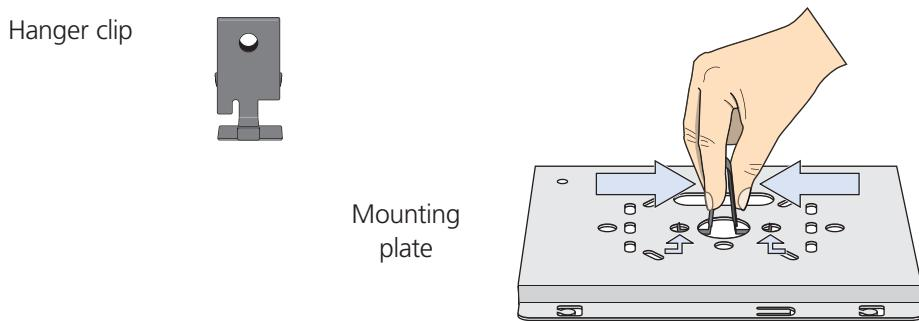

Figure 3-15. Fitting the hanger clip to the mounting plate.
2. Squeeze the clip until the projecting tabs at the ends of its two feet snap into the smaller holes on both sides of the larger hole (see Figure 3-15).